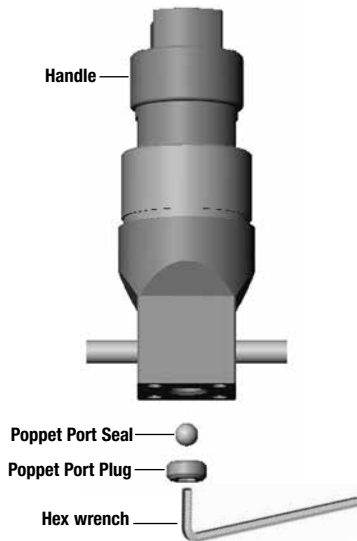

Fig. 1
2. Using a **3/16 in. hex wrench**, unthread the **poppet port plug** from the bottom of the regulator, **Fig. 1**.
3. Remove the **poppet port seal** from the bottom of the regulator and discard, **Fig. 1**.